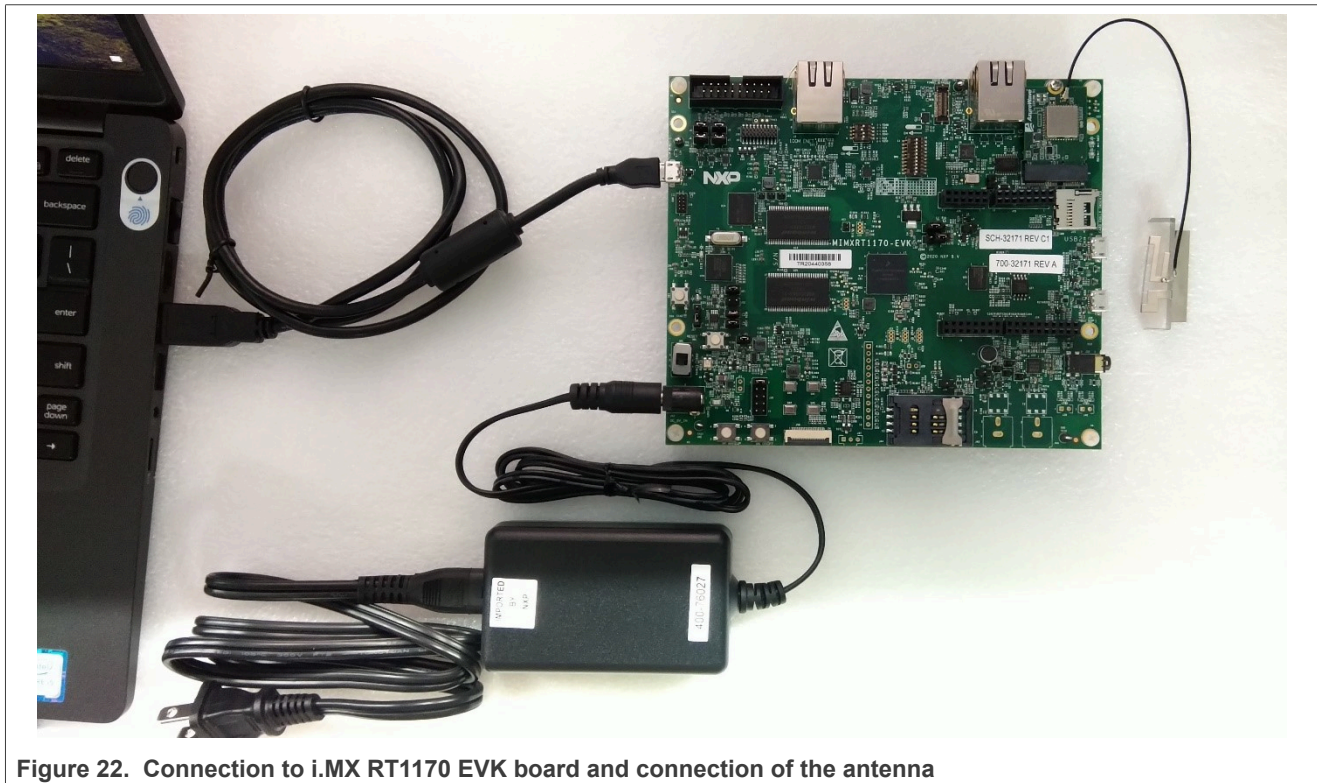

Figure 22. Connection to i.MX RT1170 EVK board and connection of the antenna
- Connect the antenna to the antenna slot of the AW-CM358MA adapter board (Figure 22).
- Use a Micro USB to USB cable to connect i.MX RT1170 EVK board to the host computer (Figure 22).